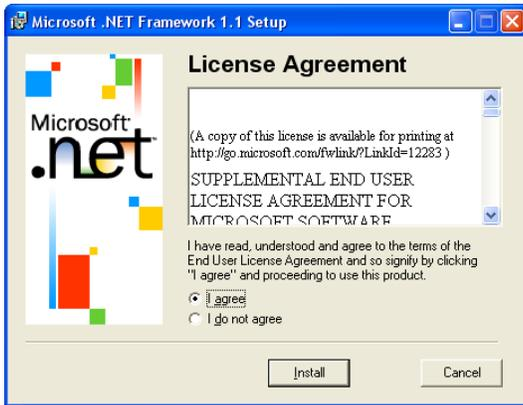

Figure 8: Microsoft .NET Installation License Agreement
5. Once the setup is complete, a license agreement appears (see Figure 8 on page 9).